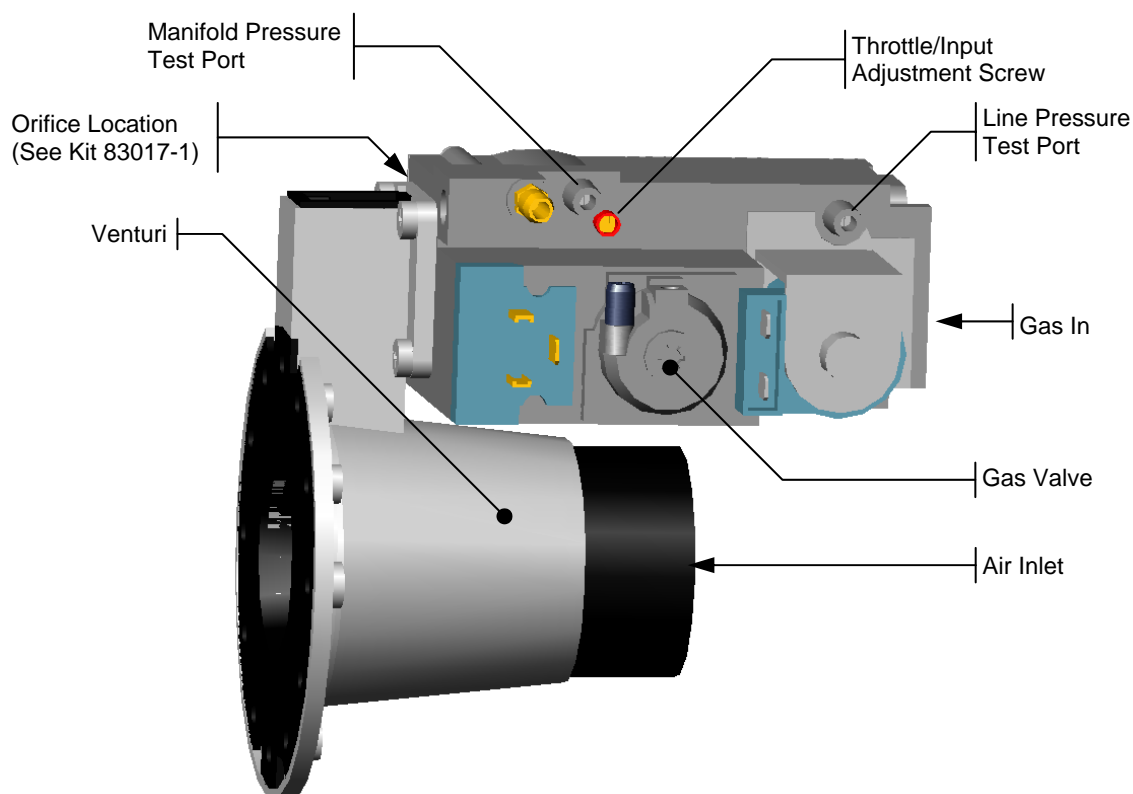

Figure 9-4 Lx500 Gas Valve and Venturi Assembly
2. Open the bleed screw of the line pressure test port approximately 1-1/2 turns (Lx150-500 models). This port is directly connected to the gas line feeding the appliance. For Lx600-800 models, replace 1/8" NPT plug in the inlet flange of the gas valve with a hose barb fitting suitable for manometer tubing used. See Figure 9-4.
**Lx500 Adjustments** - The throttle screw for the Lx500 is a multiple turn valve. Typical adjustment required for Natural Gas is 0-1 full turns in or out from the factory setting. To adjust combustion for Propane Gas, turn the throttle screw all the way in (clockwise until it stops), then turn the throttle screw out (counterclockwise) 4-1/2 turns and set with a combustion analyzer. See Figure 9-4 for throttle screw location.